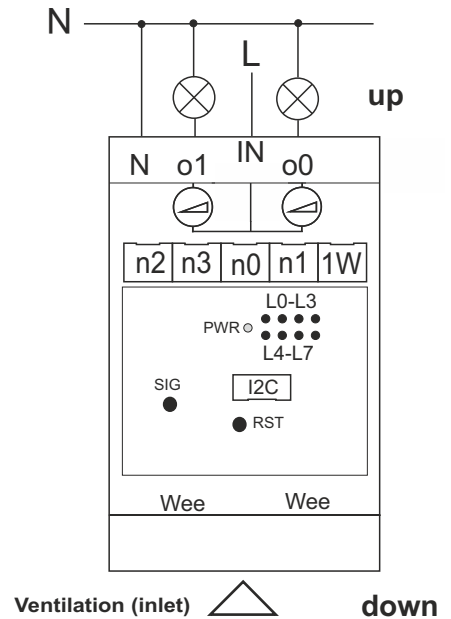

Fig 1. Connection diagram for dd2dimmm
The device is equipped with a cooling fan should be installed so that the air intake fan (indicated by the arrow "ventilation" in Figure 1) was not obscured. Direction "mountain" of Fig. 1 should be facing up when installing the device.
- Note of the card PIN and Serial Number (SN) device (Both located on the housing of the device)
- Connect the high voltage cables N, L, o0, o1 as on Fig.1